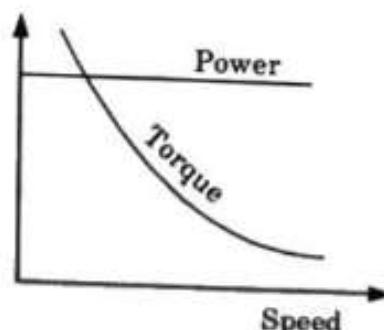

Fig. 1.4.2. Characteristics of constant-power drive.
- Eq. (1.4.3) and eq. (1.4.4) shows that with an increase in speed, the torque is decreased but the main-shaft power output remains unchanged as shown in Fig. 1.4.2. Therefore, when slip-power sP_g is handled by the main-motor shaft, a constant-power drive is obtained.